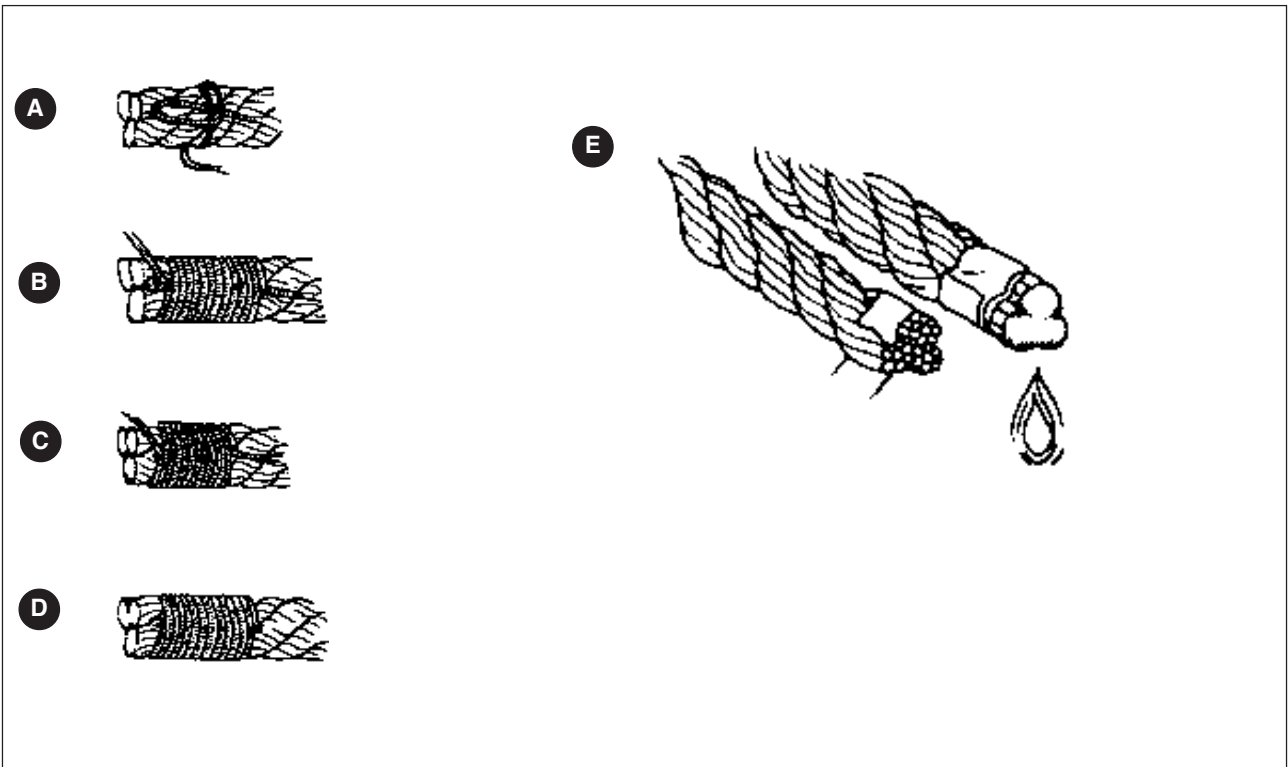

Figure 11.1 Diagrams for questions on page 16
2. The next four questions refer to diagrams a – e in Figure 11.1. Use your textbook to answer the questions.
Alternatively make a description of the steps involved in a – d as shown in Figure 11.1